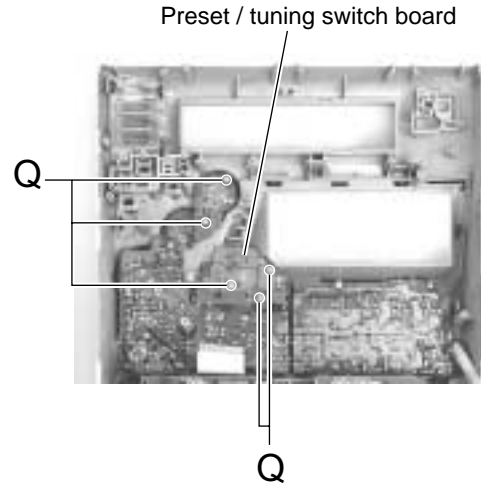

Fig.30
■ Removing the preset / tuning switch board (See Fig.30 and 31)